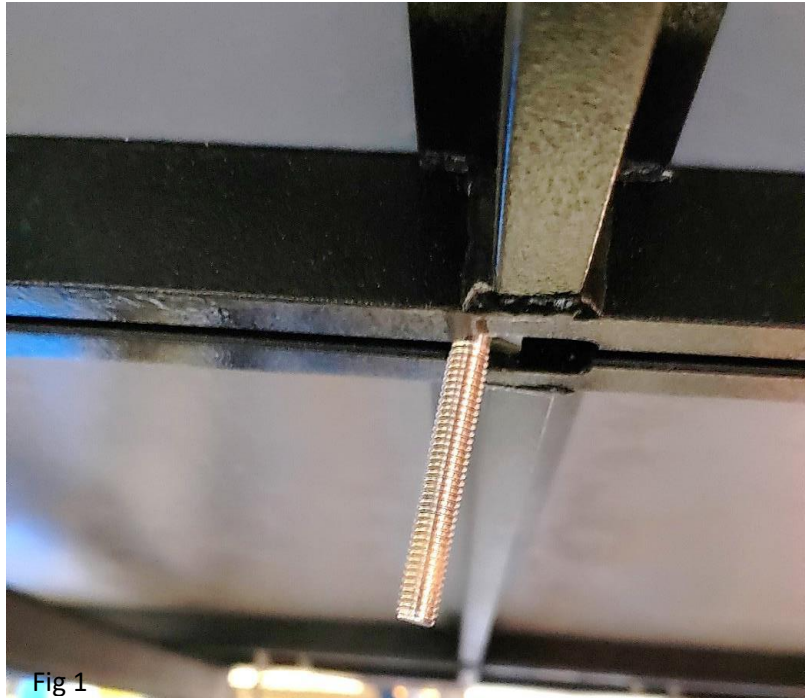

Fig 1
**Step 1.** Install the square head carriage bolts into the access holes on the tent base. Do this for both sides of the tent base, 4 bolts will be used per side. Position bolts so there is one bolt on each side of the cross bar that it will be mounted to. Fig 1.
**Step 1.** Open all eight(8) stainless steel latches. Then secure latch making sure the hook is disconnected. Fig 1. This ensures that the hook does not grasp on the catch when trying to open the tent.
**Step 3.** Install ladder into ladder brackets on side of tent (Fig 1), then open and adjust ladder to proper height. Secure ladder to tent by inserting the pin thru the hole in the ladder mounting arm. Fig 2&3.
**Step 1.** Insert window rod into window rod holes. (Fig 1) Then bend the rod upward and attach to the grommet on the corner of the window.(Fig 2)
**Step 1.** Install the elastic cords on the inside of the tent. They will attach to the loops on inside of each entrance. They are used to help pull the fabric “IN” while collapsing the tent. Fig 1.